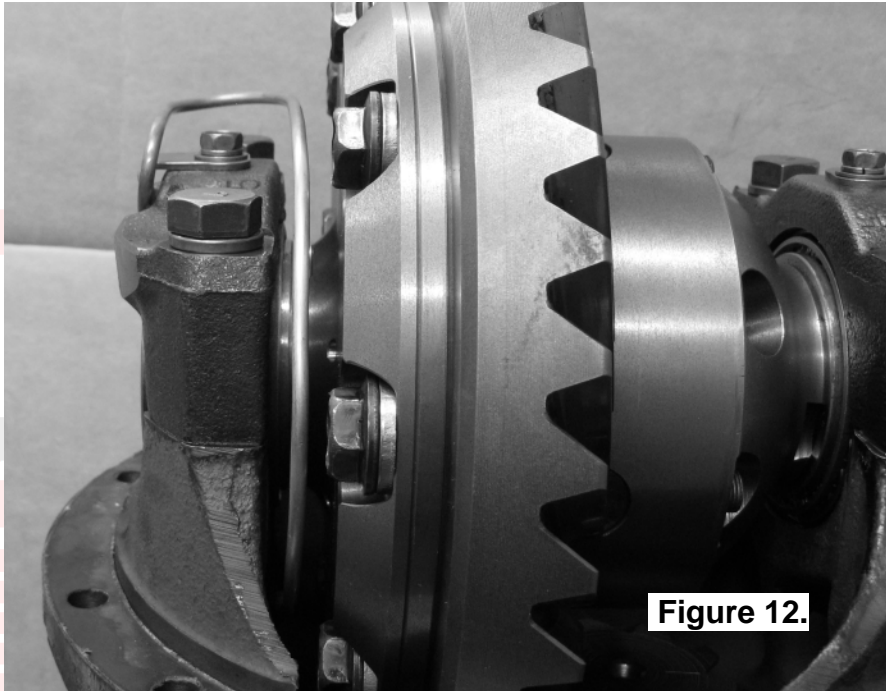

Figure 12.
- With the seal housing tube now firmly secured into the bulkhead fitting, bend the tube so that it closely follows the profile of the differential. (Figs.12.,13., & 14.)